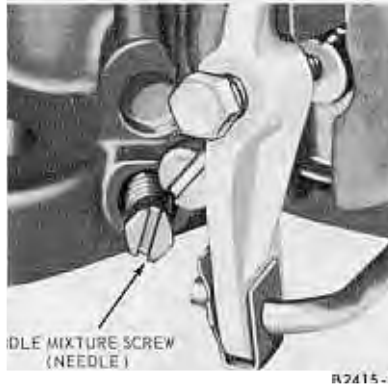

FIG. 5—Idle Fuel Mixture Adjustment—Ford I-V
Initial Idle Speed and Fuel Mixture Adjustments. Refer to Figs. 5 and 6 for views of the Ford I-V carburetor idle fuel mixture and idle (hot engine) speed adjustment screws.
Refer to Figs. 5, 6, 7 and 8 for views of the idle fuel mixture and idle (hot engine) speed screws for the various carburetor applications.
5. Turn the idle mixture needle(s) (Figs. 5 or 7) inward until the engine rpm begins to drop, due to the lean mixture. On a car equipped with a Thermactor exhaust emission system, turn the needle(s) outward $\frac{1}{4}$ turn. The outward adjustment of the idle fuel mixture needles is the final adjustment required. On a car without the Thermactor system, turn the needle(s) outward until the engine rpm increases and begins to drop; then turn the idle mixture needle(s) inward for maximum rpm and engine smoothness. On Ford 2-V and 4-V carburetors, the needles should be turned evenly and alternately approximately the same amount. The final setting may vary about $\frac{1}{2}$ turn difference between needles.